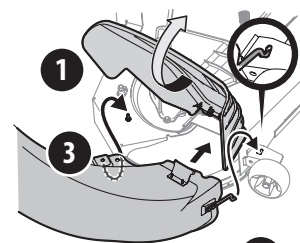

Figure 30
2. Raise the chute deflector (1) on the deck and hold it while you position the discharge chute over the chute opening.
3. Insert the end of the discharge chute elbow (2) into the hole provided in the deck wheel mount as shown in the inset of Figure 30.
- Pivot the discharge chute rearward until the hole in the discharge chute elbow aligns with the pin on the deck. Move the discharge elbow down onto that pin as shown in (3) of Figure 30.